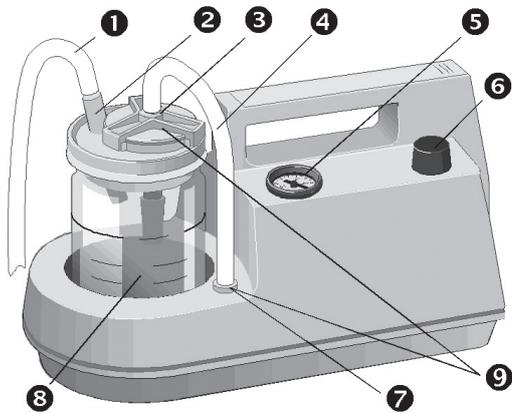

Fig. 1. Atmolit 26
- Join suction hose (①, fig. 1, page 4) with the attachment (②, fig. 1, page 4).
- Connect silicone hose (④, fig. 1, page 4) to filter attachment (⑤, fig. 1, page 4) and attachment on the unit (⑦, fig. 1, page 4) (pay attention to green signal ring).